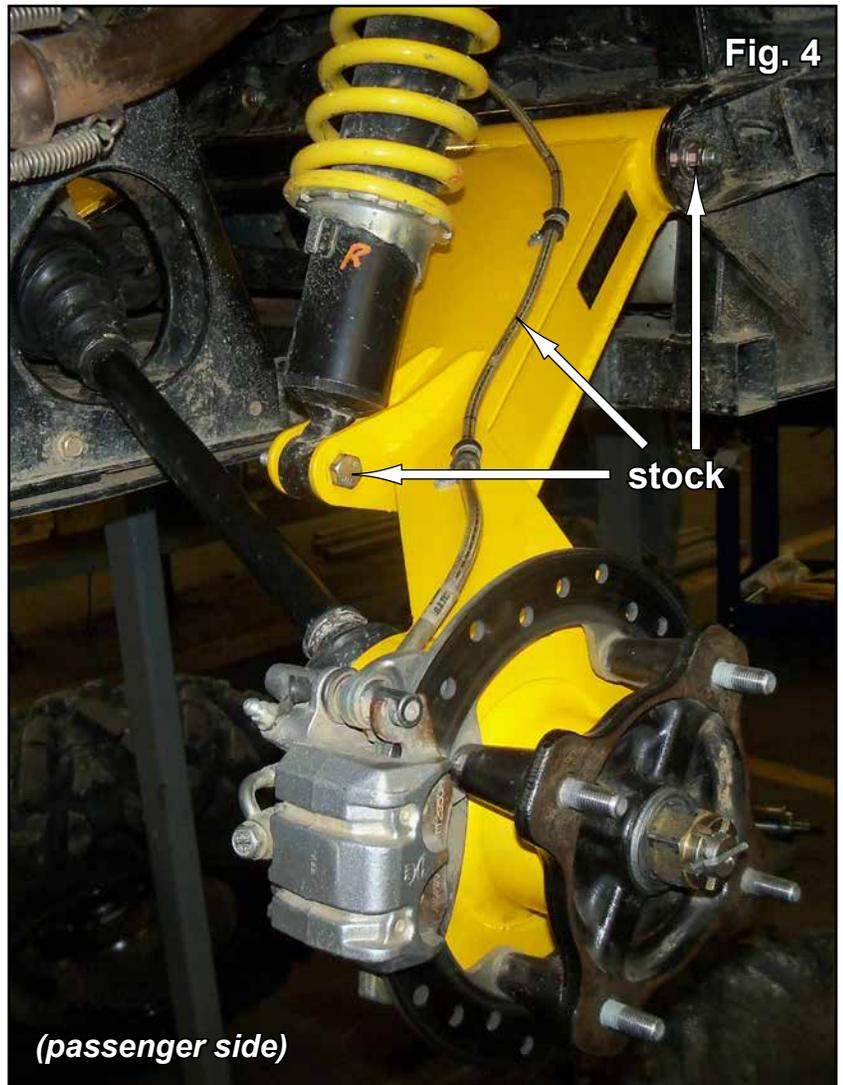

Fig. 4
- Reinstall Shock to Trailing Arm with stock hardware. See Fig. 4.
3. Reinstall Discs, Calipers, and Hubs. See Fig. 4.